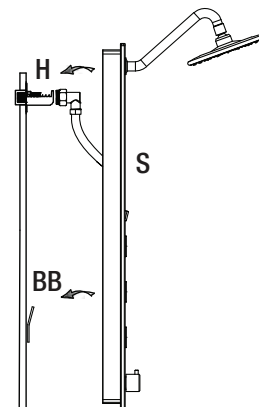

Fig. 24
- Hang the bottom of the shower column (S) on the bottom bracket (BB) first, then hang the shower column (S) on the stainless steel mounting bracket (H) through the holes in the shower column, see Fig. 24.